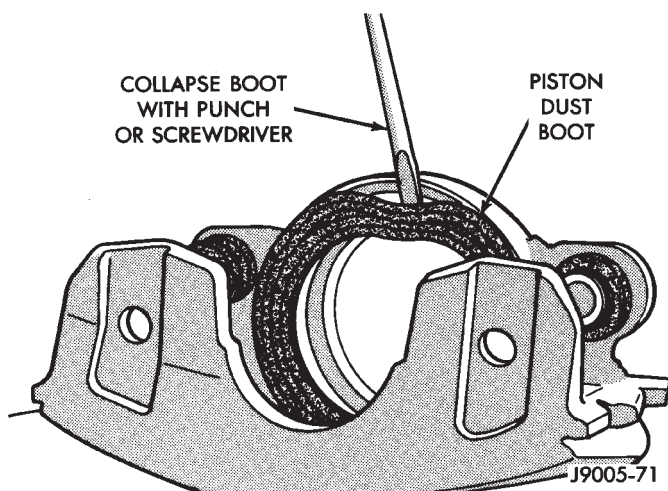

Fig. 47 Caliper Piston Dust Boot Removal
(5) Remove caliper piston dust boot with suitable pry tool (Fig. 47).